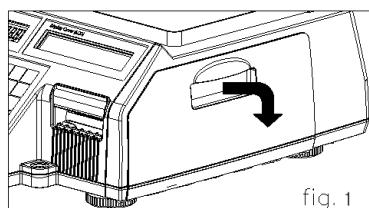

fig. 1
- 1) Press the ON/OFF key and make sure that the display is completely off. Open the printer's side-access panel. (See fig.1)